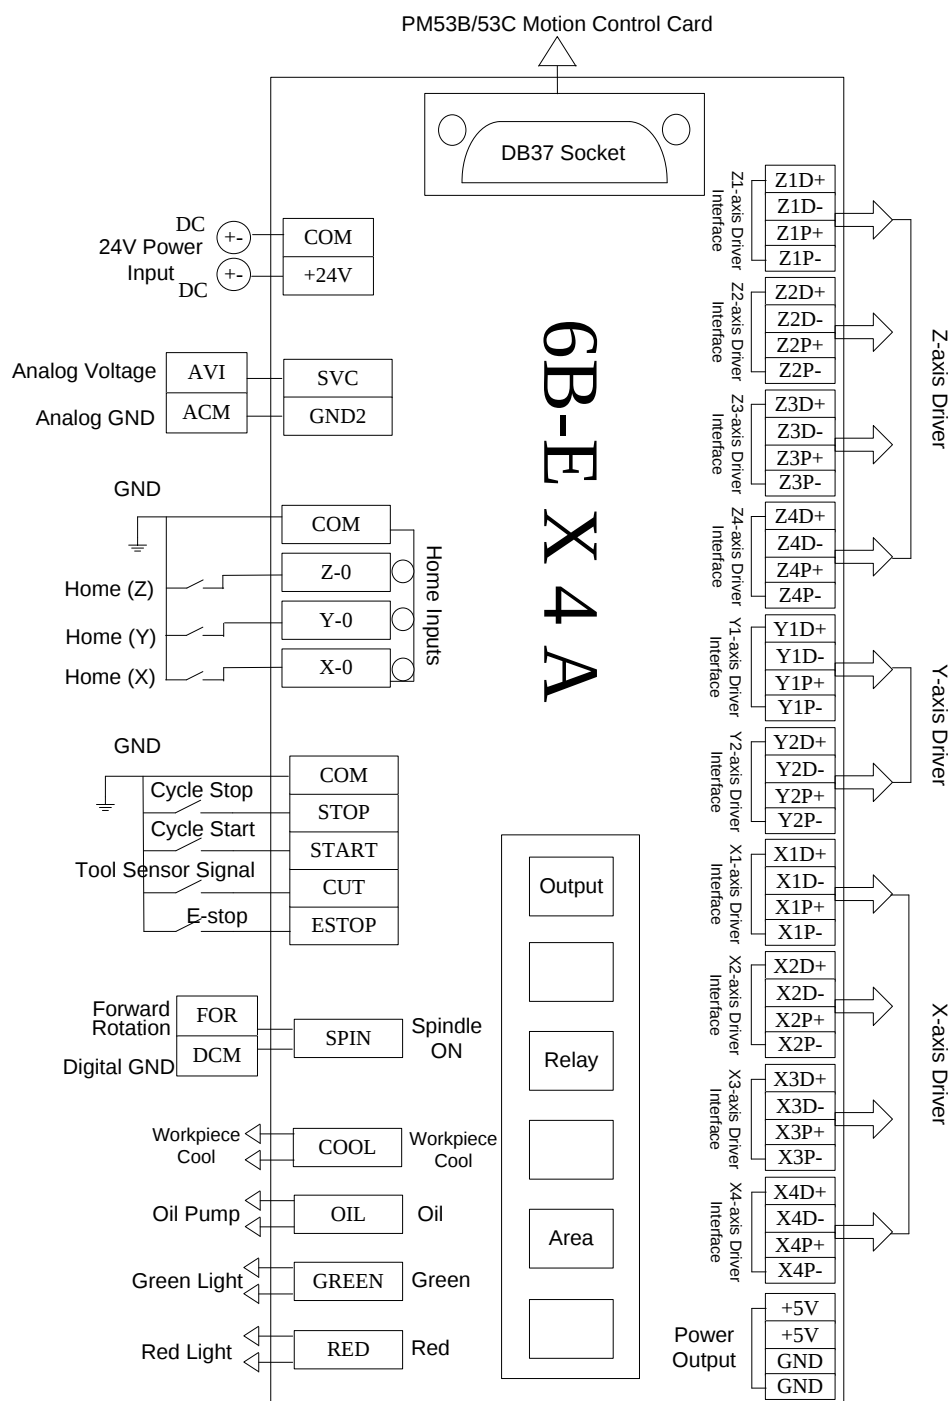

Fig. 3-8 Wiring Diagram of Terminal Board 6B-EX4A
- See Fig. 3-8 for the wiring diagram of the terminal board 6B-EX4A.